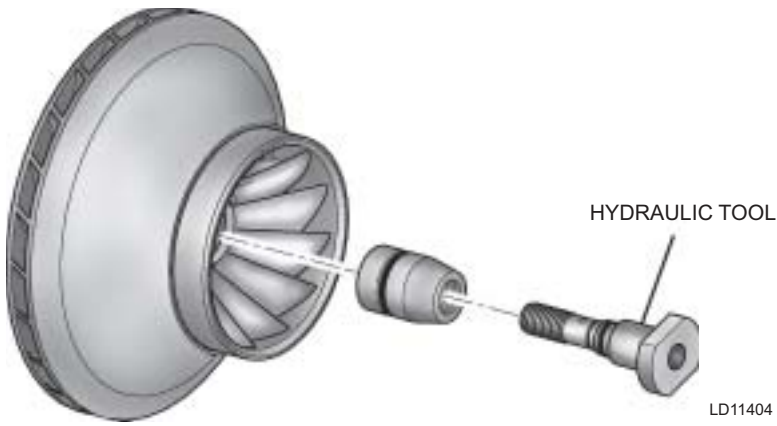

FIG. 23 – REMOVING THE IMPELLER - HYDRAULIC METHOD (IMPELLER SIZES 36 & 41)
- 4b. Hydraulic Method – Install the hydraulic removal tool, found in tool kit, as shown in FIG. 23. Connect a source of hydraulic pressure (5000 psi minimum) to the head of the removal tool (1/8” NPT). Carefully and gradually apply hydraulic pressure until the clamping collar is loosened.
- 4b. Hydraulic Method – Install the hydraulic removal tool, found in tool kit, as shown in FIG. 23. Connect a source of hydraulic pressure (5000 psi minimum) to the head of the removal tool (1/8" NPT). Carefully and gradually apply hydraulic pressure until the clamping collar is loosened.